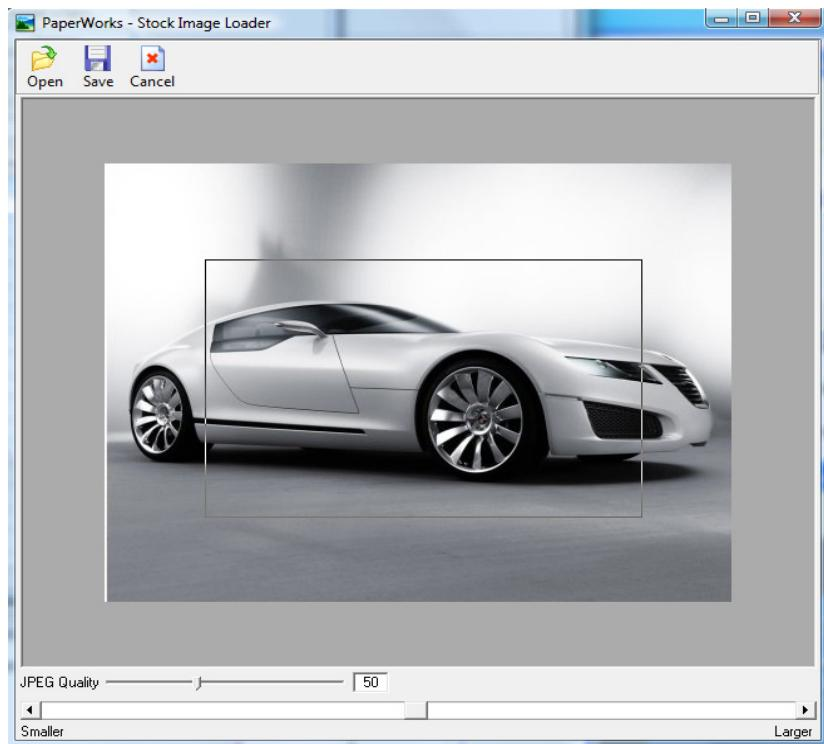

Figure 14.5 - Stock Image Loader
2. **Press** the ‘Add or Remove’ button to open the ‘Serialised Stock’ screen. Refer to figure 14.5.